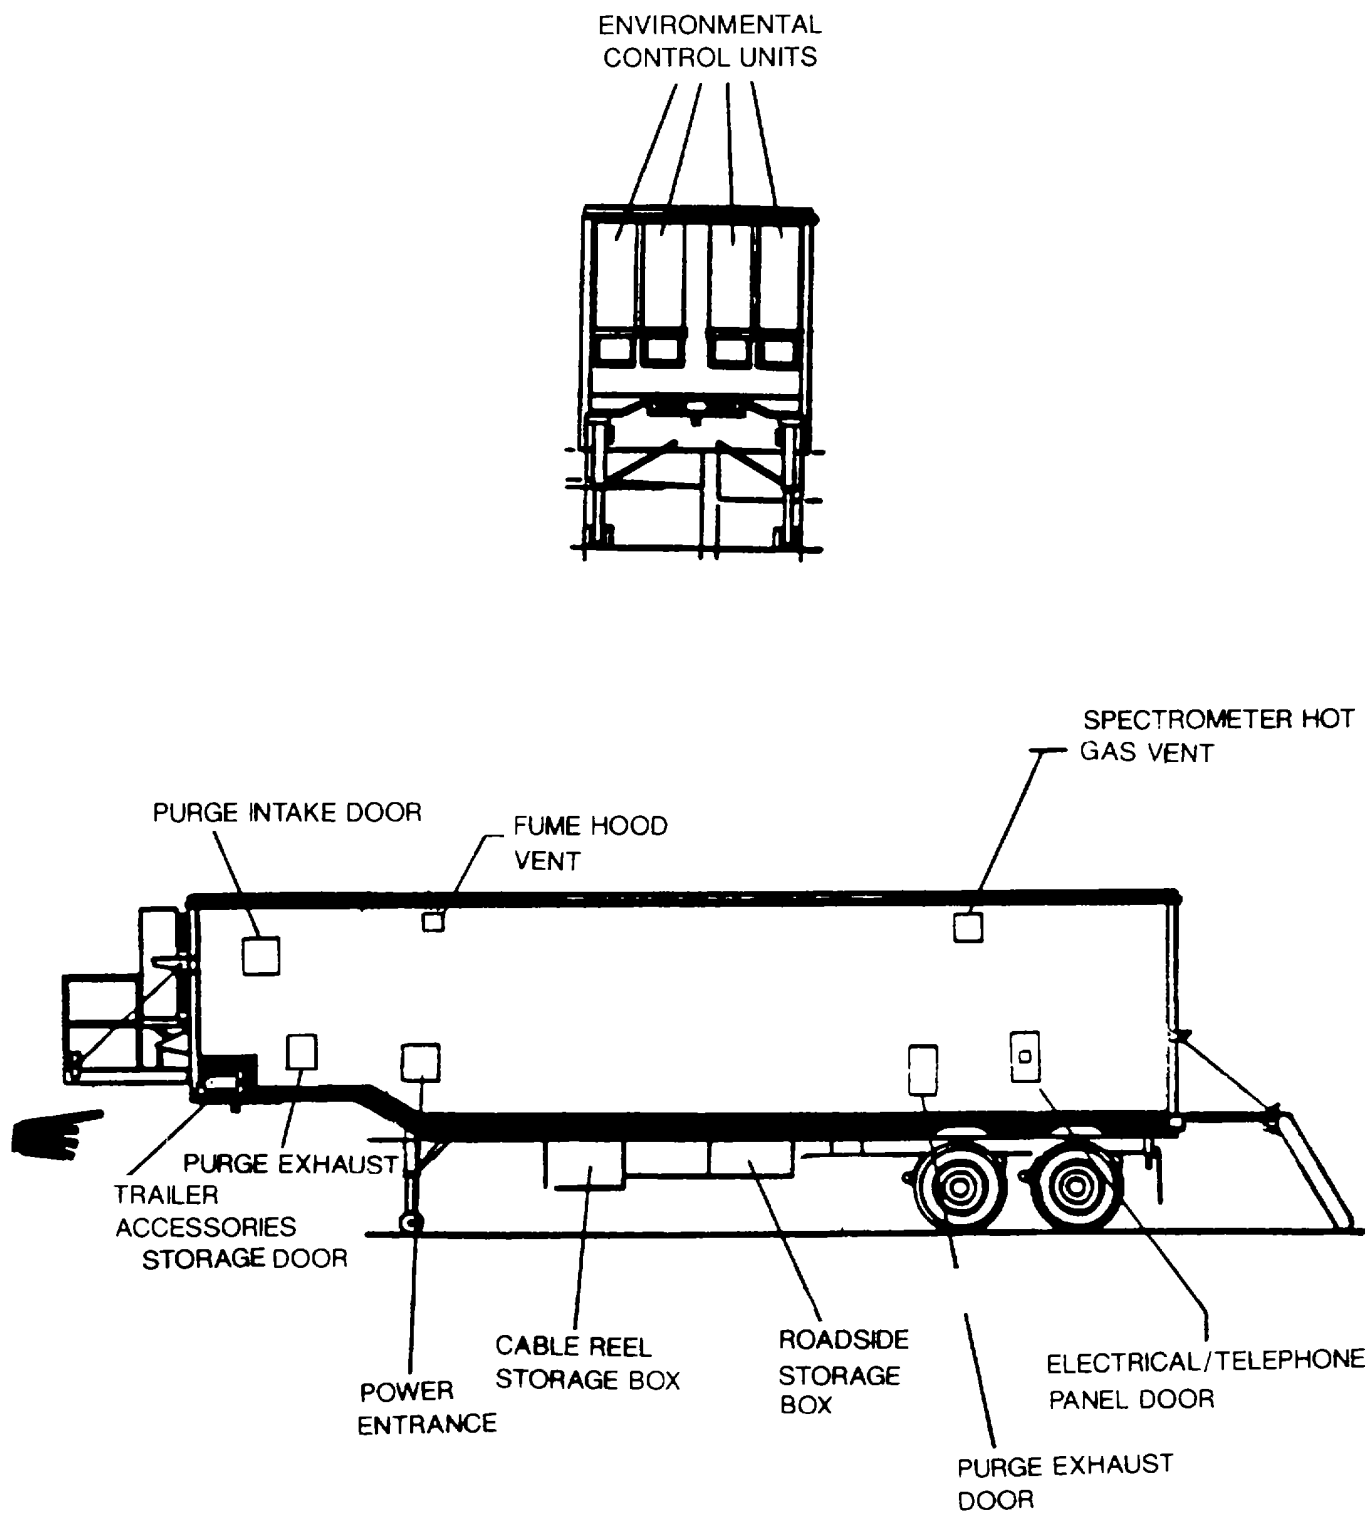

Figure 1-3. Front and Roadside Exterior.
b. *Front and Roadside Exterior (Figure 1-3).*